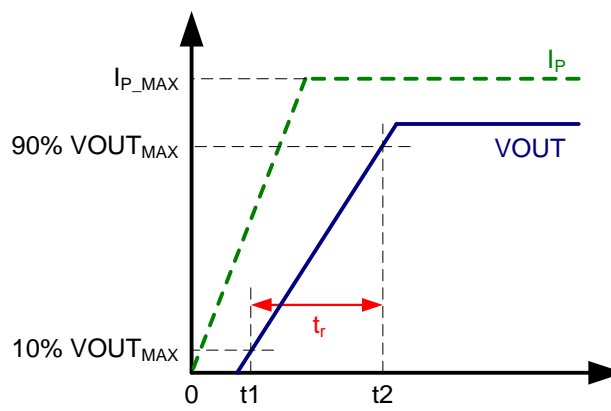

Figure 6: Rise Time (t_r)
Figure 6 shows rise time (t_r) as the time interval between V_{OUT} reaching 10% of its full scale value (t_1), and it reaching 90% of its full scale value (t_2). The sensor bandwidth is defined as the 3dB cutoff frequency, and can be derived by the rise time of the response to an applied step with Equation (6):